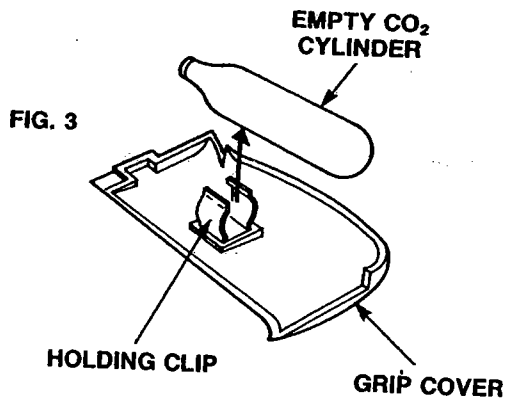

FIG. 3
- Slide the empty CO₂ cylinder from the holding clip. (Fig. 3)